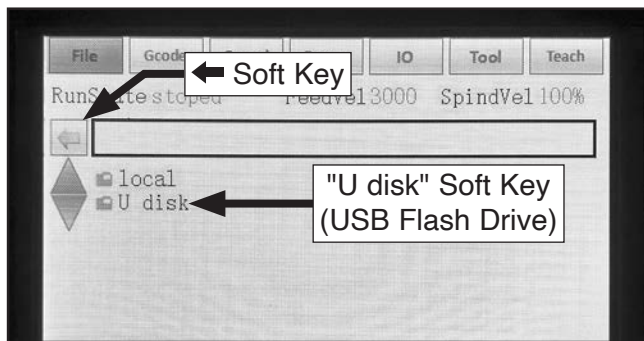

Figure 35. Example of controller file screen.
7. Navigate to  soft key and press "Enter" until you return to file screen (see **Figure 35**).
8. Navigate to "U disk" soft key (see **Figure 35**) and press "Enter" button, then navigate to "Paste" soft key and press "Enter" button to transfer **tool.tbl** file to USB flash drive.